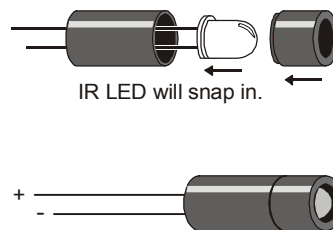

**Figure 7-3**
- ✓ Insert the infrared LED into the shield assembly as shown in Figure 7-3.